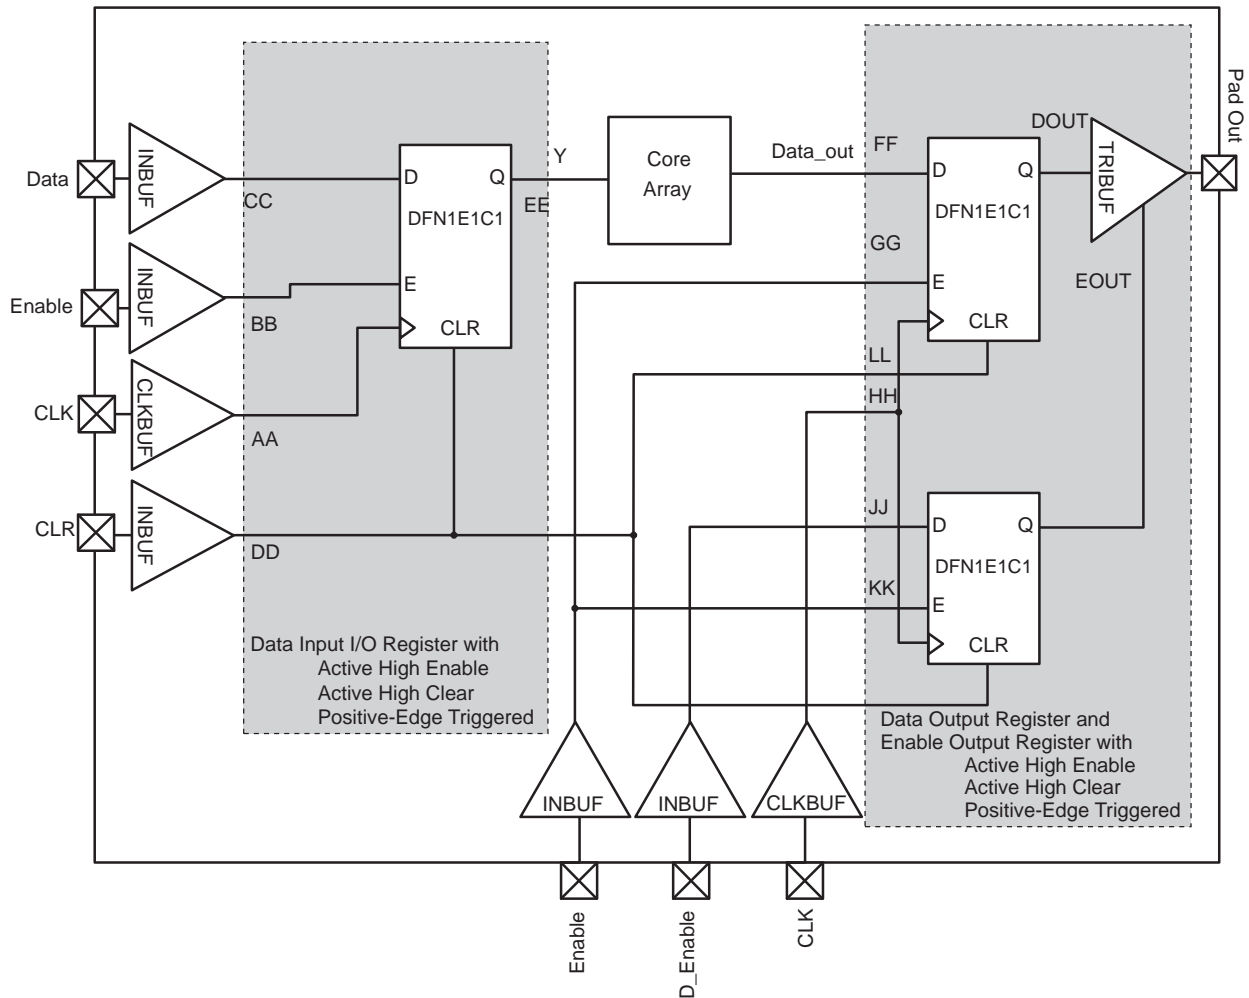

Figure 2-11 • Timing Model of the Registered I/O Buffers with Synchronous Enable and Asynchronous Clear
* See Figure 2-11 on page 2-40 for more information.